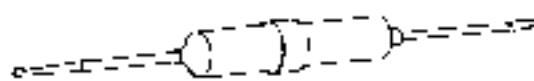

Figure B-10. Deutsch Connector Pick Tool (Part No. HD-41475-100)
1. Remove the secondary locking wedge. Use the hooked end of a stiff piece of mechanics wire or needle nose pliers, or a suitable pick tool (Part No. HD-41475-100). See Figure B-10.